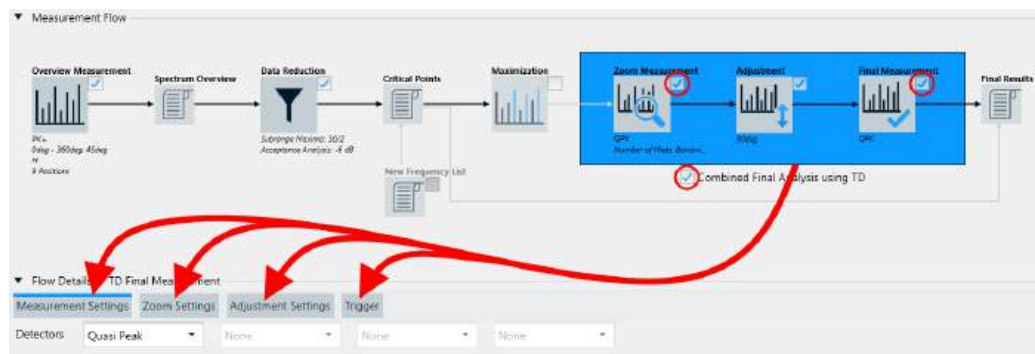

Figure 4-63: The icon for **Combined Final Analysis using TD** gives access to various settings in the **Flow Details**
- Both the Zoom Measurement and the Final Measurement are enabled, as indicated by the red circles in Figure 4-63